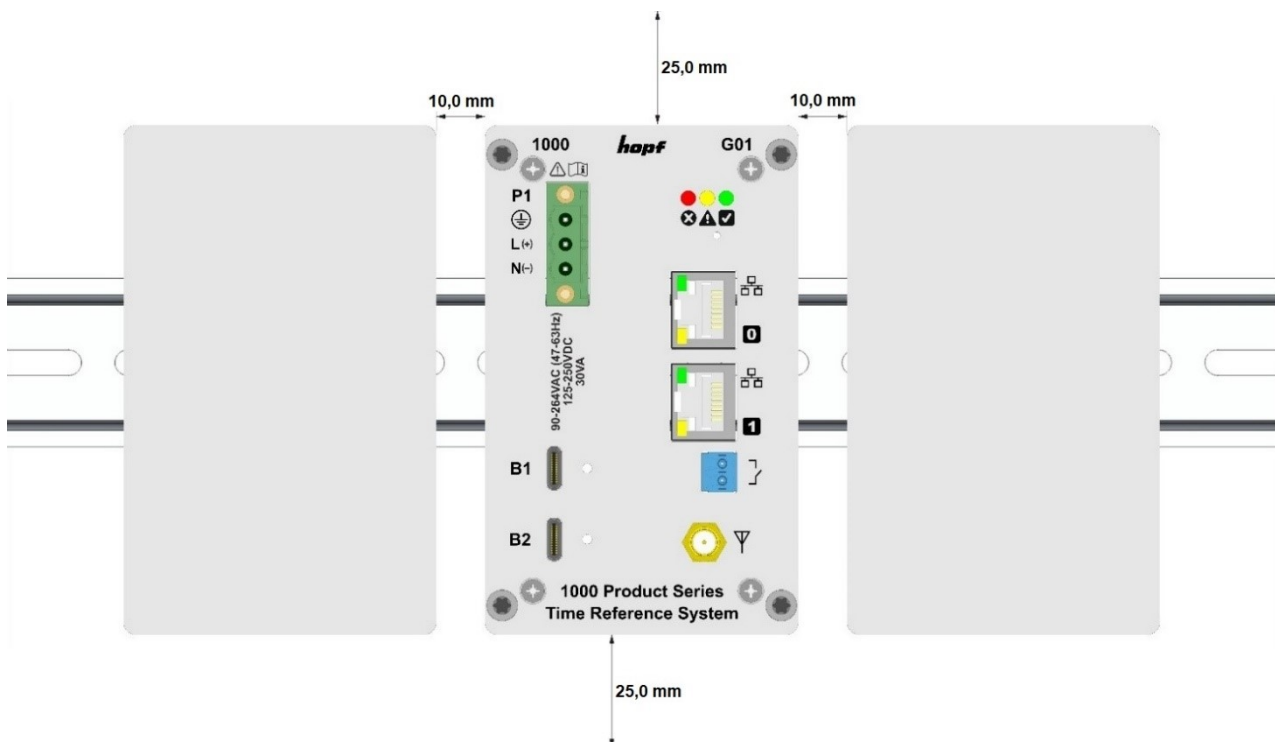

Figure 6
3. **Verify clearances:** Check that all minimum clearance rules specified in the caution box above are fulfilled (see Figure 6).